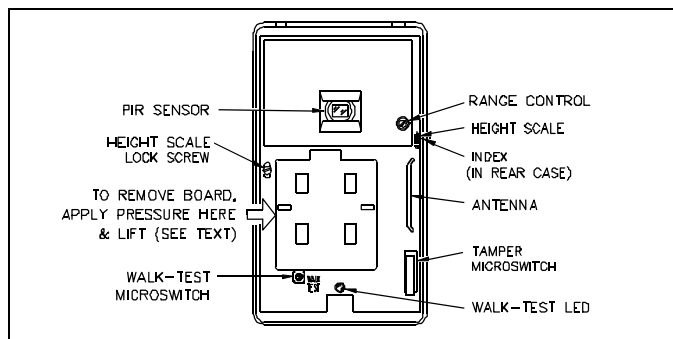

Fig. 2. GEM-DT, front cover removed.
2. Remove the circuit board: apply pressure against the left side of the cavity and lift out. See Fig. 2.
The Height Scale must be set to obtain the maximum recommended coverage. Remove the front cover; the Height Scale is printed along the edge of the circuit board at the lower-right corner of the shield (see Fig. 2). Scale calibrations represent sensor mounting height. To set, loosen the Lock Screw and slide the board up or down, and align the the index in the case with the calibration representing the mounting height of the unit. Then tighten the Lock Screw (do not overtighten!).
The walk-test mode is entered by holding down the WALK TEST microswitch (see Fig. 2) as follows: